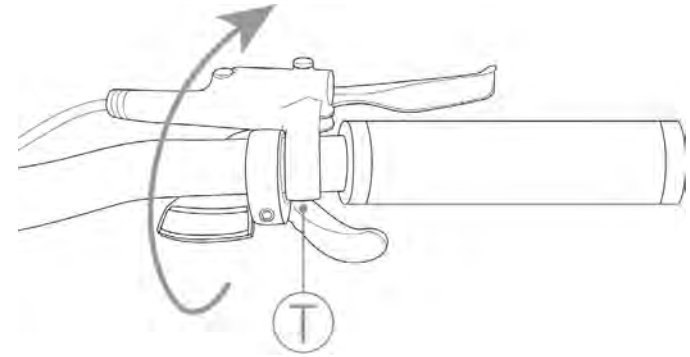

FIG. 15
- Rotate the brake lever using the clamping screw (Ref. T - Figure 15) until you reach a comfortable position of the hand.